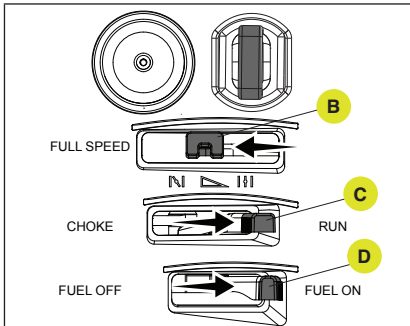

Figure 21
3. To start a warm engine: (Fig. 21)
- 3a. Move the throttle lever (B) to full speed.
- 3b. Move the choke lever (C) to the run position.
- 3c. Move the fuel shut-off lever (D) to the ON position.